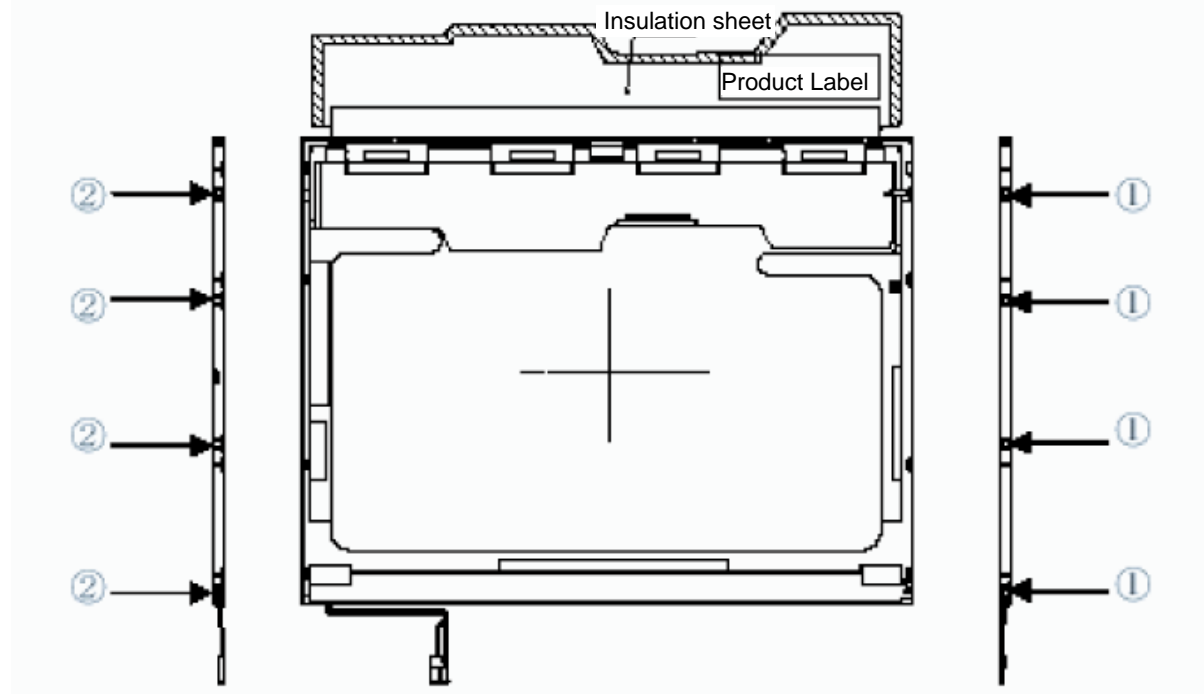

Figure 4-51 Replacing 14.1 Inch TMD fluorescent lamp (XGA) (10)
1. Fasten four screws on the right edge shown in Figure 4-51.
2. Fasten four screws on the left edge shown in Figure 4-51.
CAUTION: (1) Fasten the screws in the orders shown in Figure 4-51. No loose fastening is allowed.
(2) The tightening torque must not exceed $0.147 \text{ N} \cdot \text{m}$ ($1.5 \text{ kgf} \cdot \text{cm}$) for all the eight screws.
(3) For the Philips screwdrivers, use an insert bit of point size 0.